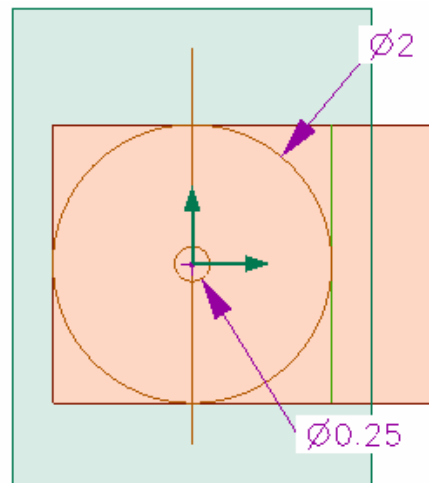

Figure 41. Layout for round and center hole.
89. Create the profile of the round and the 1/4" center hole as shown in figure 41. First draw vertical lines from the origin up and down beyond the arm profile. Now draw concentric circles of 2D and 1/4D at the origin. You must also draw straight lines over the top left and bottom left lines. Draw the left vertical line away from the edge to the left in order to create the round profile.